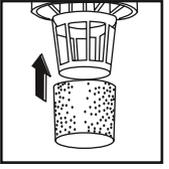

Fig. 8
7. To liquid vacuum. Install the foam filter supplied. (Fig. 8). Refer to the liquid vacuuming in the filter installation section.